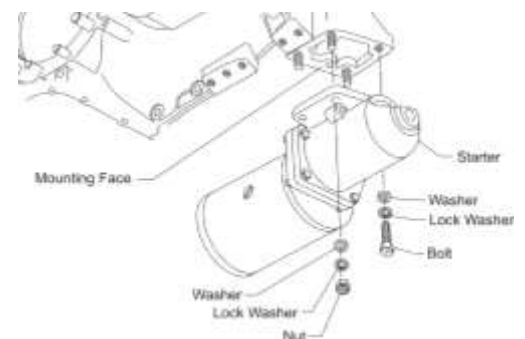

Figure 55
- (1) Disconnect the battery.
- (2) Remove electrical leads from the starter. Refer to the airframe manufacturer's manual.
- (3) Remove the bolt, lock washer, and washer from the starter (Figure 55). Discard the lock washer.
- (4) Hold the starter and remove the three nuts, lock washers, and washers from the studs on the mounting face for the starter. Discard the lock washers.
- (5) Remove the starter from the studs on the engine.
- (1) Install the starter onto studs and seat on mounting face of the engine (Figure 55).
- (2) Install the starter with a flat washer, a new lock washer, and a nut on each of the three studs.
- (3) Install the bolt, a new lock washer, and a flat washer in the vacated hole on the engine mounting face of the starter.
- (4) Tighten and torque the bolt and all of the nuts per the Standard Torque Tables in the latest revision of the *Service Table of Limits - SSP-1776*.
- (5) Install electrical leads to the starter as per the airframe manufacturer's manual.
- (6) Connect the battery.
- (7) Complete the operational ground check in Chapter 72-00, to make sure the starter operates correctly.